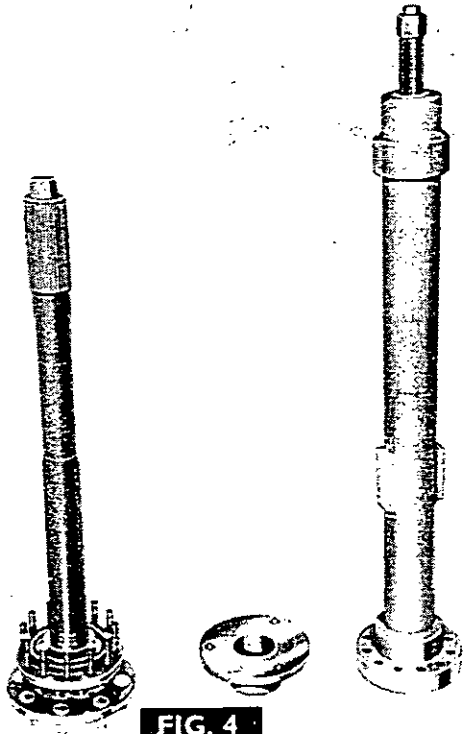

FIG. 4
1. Figs. 4 and 5. Fit a new oil seal (6) to the hub and bearing assembly (7) and position the hub and bearing assembly, new collar (8) and adapter MF 26B-1 onto the axle shaft, and then using the MF 26B tool as shown, drive the hub and bearing assembly and collar onto the axle shaft.